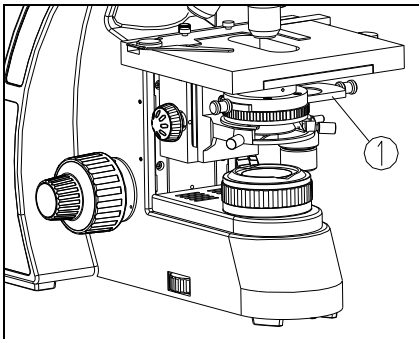

Fig 34
4. When observing the fluorescence slide, should pull the light barrier ① left into light path to stop transmission light. (See Fig.34)